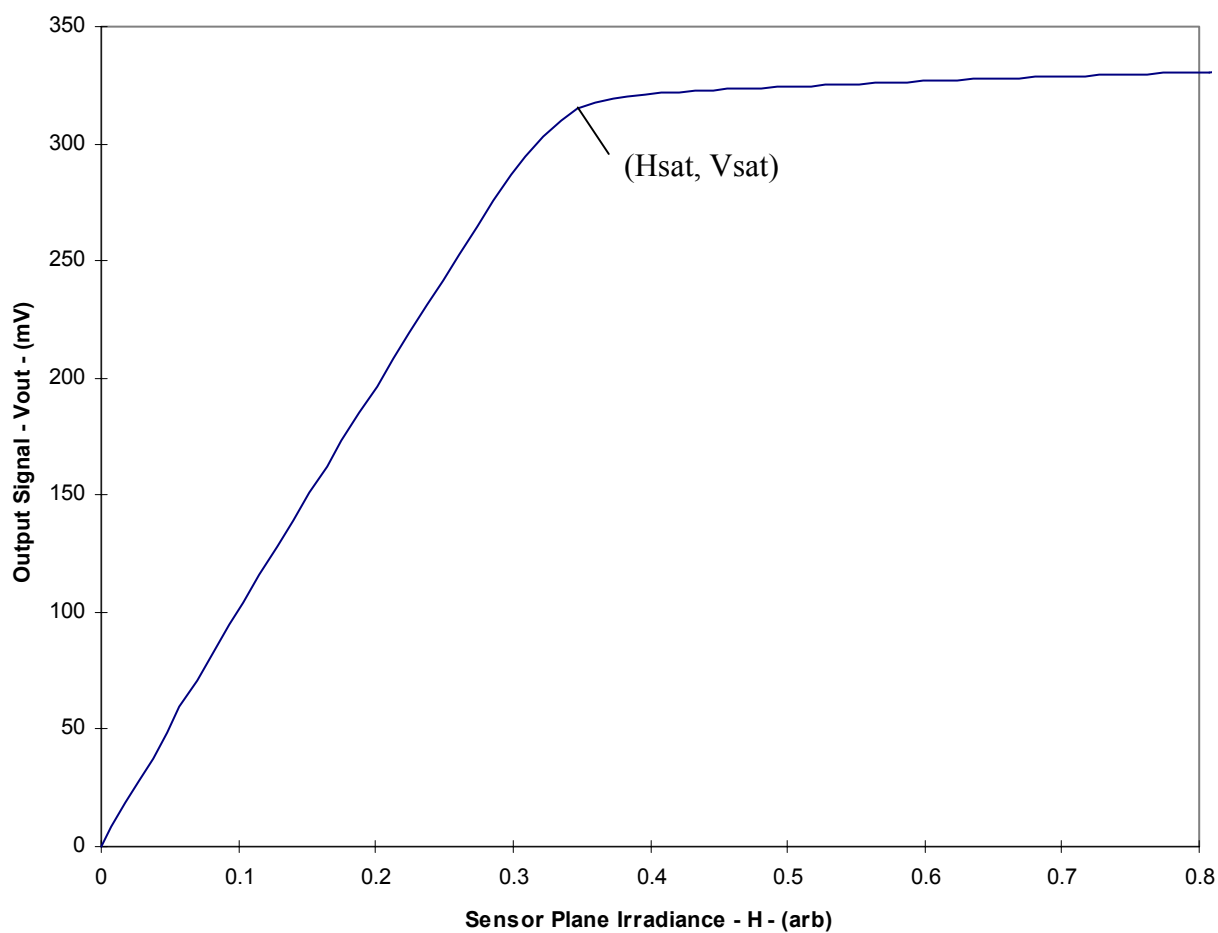

Figure 23 Typical KAI-1010M Photoresponse
6. Xab represents the increase above the saturation-irradiance level (Hsat) that the device can be exposed to before blooming of the vertical shift register will occur. It should also be noted that Vout rises above Vsat for irradiance levels above Hsat, as shown in Figure 23.